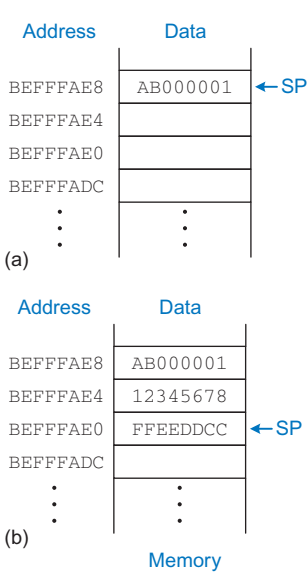

Figure 6.11 The stack (a) before expansion and (b) after two-word expansion
Figure 6.11 shows a picture of the stack. The stack pointer, SP (R13), is an ordinary ARM register that, by convention, *points to the top of the stack*. A pointer is a fancy name for a memory address. SP points to (gives the address of) data. For example, in Figure 6.11(a), the stack pointer, SP, holds the address value 0xBEFFFAE8 and points to the data value 0xAB000001.
The stack pointer (SP) starts at a high memory address and **decrements to expand as needed**. Figure 6.11(b) shows the stack expanding to allow two more data words of temporary storage. To do so, SP decrements by eight to become 0xBEFFFAE0. Two additional data words, 0x12345678 and 0xFFEEDDCC, are temporarily stored on the stack.